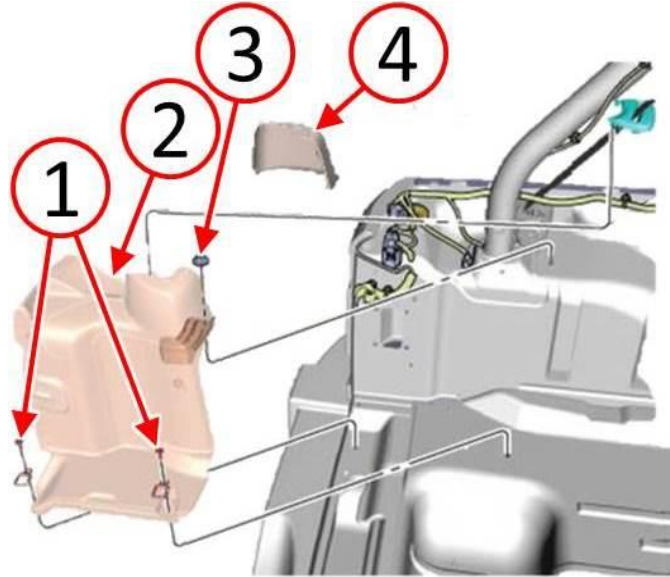

Fig. 17 Interior Trim Panel Left Rear Corner
39. Remove the fasteners (1) and tie-down clips from the left rear quarter trim panel (Fig. 17).
40. Remove the trim cover (4) from the left rear quarter trim panel (Fig. 17).
41. Remove the fastener (3) from the left rear quarter trim panel (Fig. 17).
42. Remove the left rear quarter trim panel (2) and disconnect the electrical connector from the alarm sensor attached to the back side of the quarter trim panel (Fig. 17).